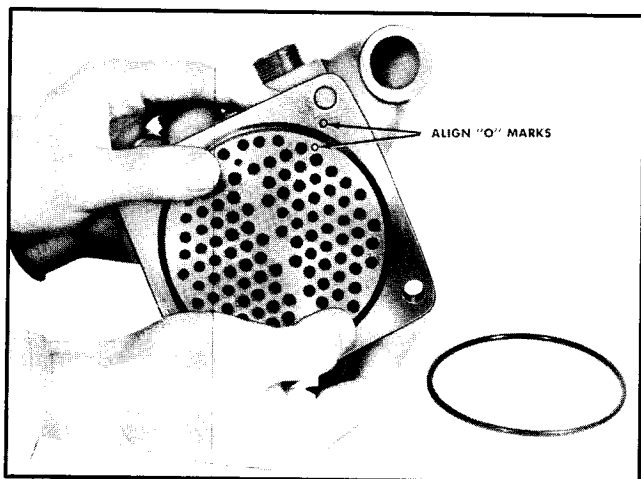

Fig. 4-12. Installing tube bundle element
3. Push the element into the housing by hand, taking care to align the index marks on the housing and element. Fig. 4-12.